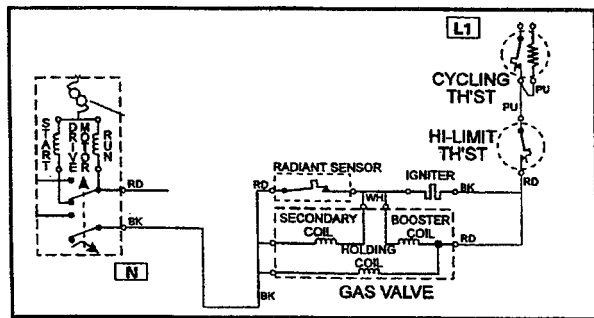

Figure 2-99
**NOTE:** *On the wiring diagram the radiant sensor contacts are wired in parallel with the secondary coil (Figure 2-99).* This bypasses current around the secondary coil when the radiant sensor contacts are closed. Valve 2 cannot open with the radiant sensor contacts closed. The booster coil and the igniter are wired in parallel. **NOTE:** *While these two components are in parallel with each other, they are wired in series with both the radiant sensor and secondary coil combination.*